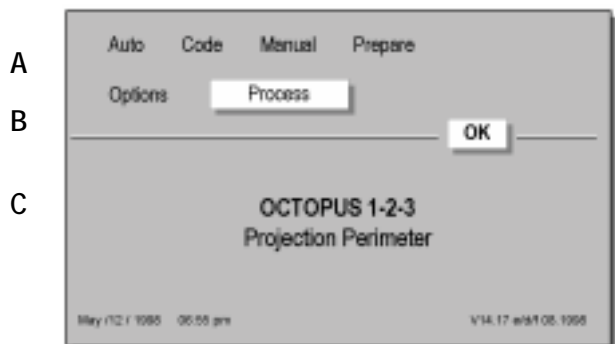

Figure 1-2
The screen is usually divided into two sections by a horizontal line (B) in Figure 1-2. The upper part (A) contains the menu bar. Main sections are defined below:
**NOTE:** There is a choice of six languages depending on the software version as displayed in (Figure 1-2).
From the main screen (Figure 1-2) there are two ways to start an examination.